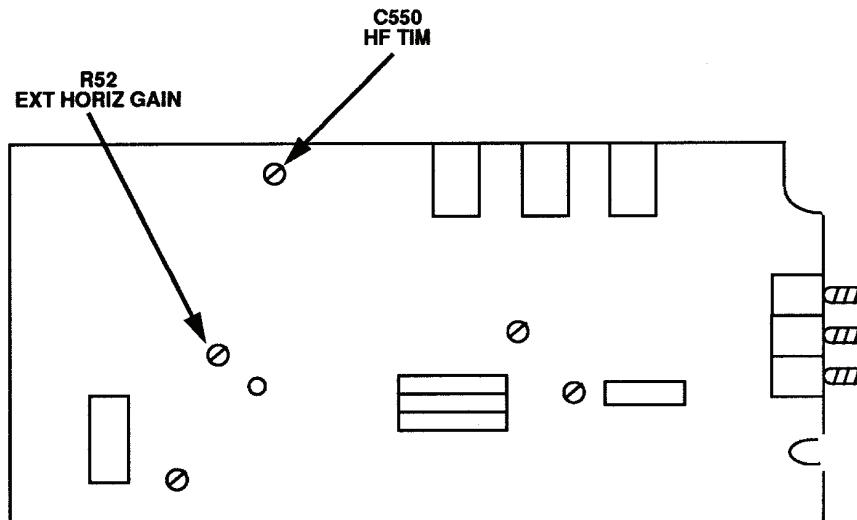
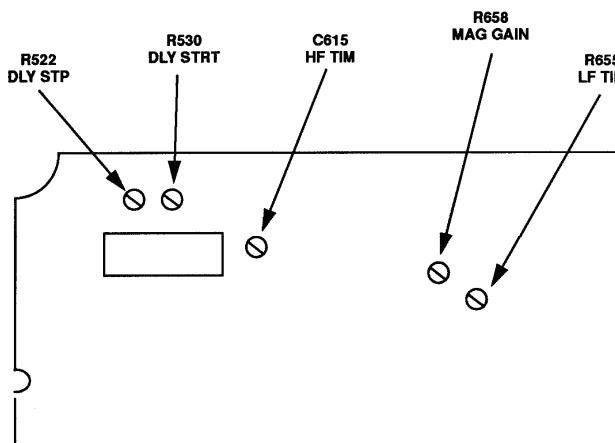

Figure 1. Test instrument A board - left-side view.
Figure 2. Test instrument B board - right-side view.
- (1) Connect oscilloscope calibrator **SOURCE/MEASURE CHAN 1** to **TI EXT HORIZ AMPL.**
- (2) Set oscilloscope calibrator **VOLTAGE** output for 0.5 V, 1 kHz.
- (3) Adjust **TI POSITION** control to position dots to extreme right and left vertical graticule lines.
- (4) Adjust dual trace amplifier **CH 1 POSITION** control to vertically center the dots.
- (5) Adjust oscilloscope calibrator **EDIT FIELD** knob for 10 divisions of horizontal deflection on oscilloscope. If oscilloscope calibrator **err** display does not indicate within $\pm 3\%$, perform **b** below.
- b. Adjustments** Adjust oscilloscope calibrator **EDIT FIELD** knob for a 0.0% **err** display indication. Adjust R52 EXT HORIZ GAIN (fig. 1) for a 10 division horizontal deflection on oscilloscope (R).
(1) Release TI **SWP MAG** pushbutton (out), set TI **MAIN SEC/DIV** switch to **1 m** and oscilloscope calibrator **MARKER** output for **1 mS/D**. If necessary, adjust oscilloscope calibrator **EDIT FIELD** knob for a **0.0%** **err** display indication.
(2) Adjust TI **POSITION** control to align 1st time marker with 1st vertical graticule line (extreme left). Adjust R655 LF TIM (fig. 2) to align one time marker per division (R).
(3) Press TI **SWP MAG** pushbutton. Adjust R658 MAG GAIN (fig. 2) to align one time marker per division (R).
(4) Release TI **SWP MAG** pushbutton (out), set TI **MAIN SEC/DIV** switch to **.5 μ** and oscilloscope calibrator **MARKER** output for **0.5 μ S/D**.
(5) Adjust TI **POSITION** control to align 1st time marker with 1st vertical graticule line (extreme left). Adjust C550 HF TIM (fig. 1) to align one time marker per division (R).
(1) Set TI **MAIN SEC/DIV** switch to **1 μ** , **DLY'D SEC/DIV** switch to **.5 μ** and oscilloscope calibrator **MARKER** output for **0.5 μ S/D**. If necessary, adjust oscilloscope calibrator **EDIT FIELD** knob for a 0.0% **err** display indication.
(2) Adjust TI **POSITION** control to align 1st time marker with 1st vertical graticule line (extreme left). Adjust C615 HF TIM (fig. 2) to align one time marker per division (R).
(3) Adjust **DELAY TIME MULT** dial to **1.00** and adjust R530 DLY STRT (fig. 2) until intensified portion of trace starts on 2d vertical graticule line (R).
(4) Adjust **DELAY TIME MULT** dial to **9.00** and adjust R522 DLY STP (fig. 2) until intensified portion of trace starts on the 10th vertical graticule line (R).
(5) Press **DISPLAY MODE DLY'D SWP** pushbutton. Adjust R530 DLY STRT and R522 DLY STP (fig. 2) equally until time marker is just visible at start of trace.
(6) Press **DISPLAY MODE INTENS SWP** pushbutton and repeat (3) through (5) above, as necessary, for best compromise.